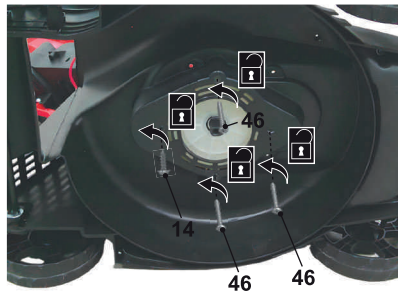

Fig. 6
5. Turn the machine over to the side, then remove the 3 self-tapping screws ST4.8\*35 (46) and 1 self-tapping screw ST4.2\*13 (14) (Fig. 6).